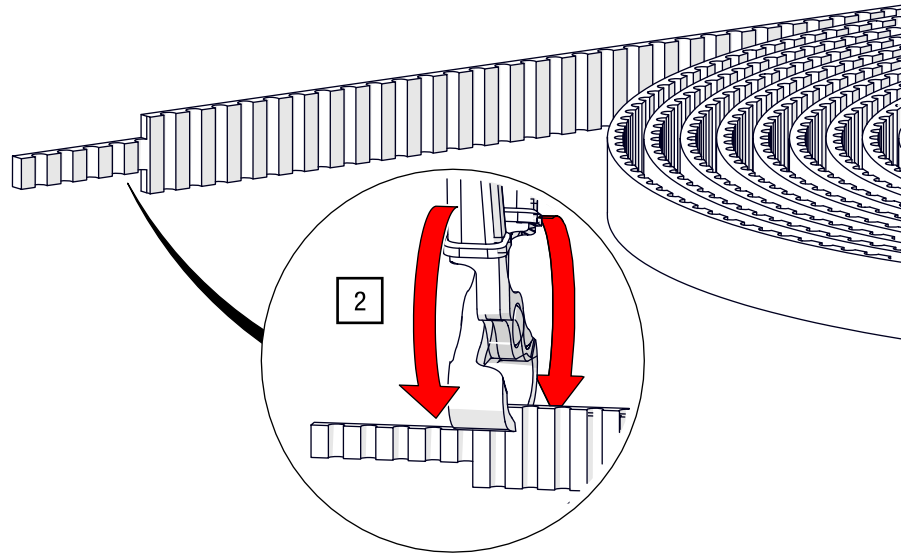

Fig. 76: Cutting timing belt – Cut belt along the marking
2. Cut with end cutting pliers first along the timing belt until you reach the end of the marking after 70 mm and then across the wire mesh (see Fig. 76).
11. Then cut the end again according to Fig. 76.